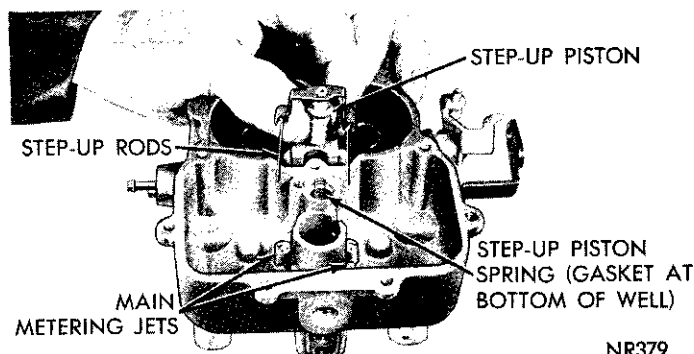

Fig. 4—Removing or Installing Step-Up Piston
(10) Remove fuel inlet needle valve, seat and gasket from main body.
(11) Lift out float fulcrum pin retainer, and lift out floats and fulcrum pin.
(12) Remove step-up piston and retaining screw and slide step-up piston and rods out of well, (Fig. 4). Lift out step-up piston spring. Remove step-up piston gasket from bottom of well.
(8) Slide step-piston gasket down into position in piston well, then install the step-up piston spring, step-up piston and rods. Carefully guide step-up rods into main metering jets (Fig. 4). Install retaining screw and tighten securely. Check piston for free operation in well.